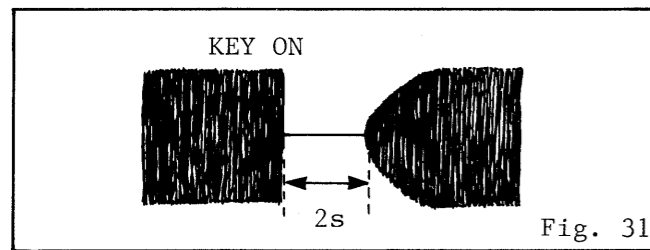

Fig. 31
- (1) Reset TRIG MODE to AUTO. Set DELAY TIME to "10".
- (2) Set oscilloscope to 2V/cm, 0.5s/cm.
- (3) Adjust DELAY TIME VR4 so that when a key is pressed, the waveform disappears, then 2 seconds later, begins to reappear. (Fig. 31)